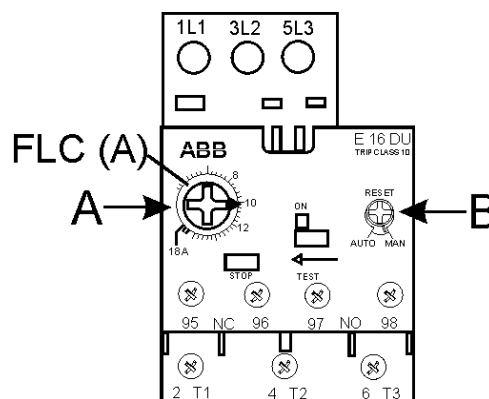

Figure 16. Electronic Overload Module (New Style)
There are two dials (A and B) on the Electronic Overload Module (Figure 16) that require setting before the pump can be used with the control box.
1. Set dial **A** pointer (Figure 16) to 10.5. This setting represents the running amps of the pump. This information can be located on the pump's nameplate
1. Depending on the application, Set **RESET** dial **B** pointer (Figure 16) to either **AUTO** or **MAN**.